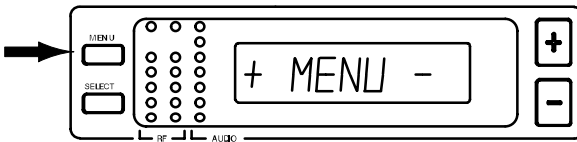

FIGURE 21
- Press the MENU button. The "+ MENU –" display appears, as shown in Figure 21.